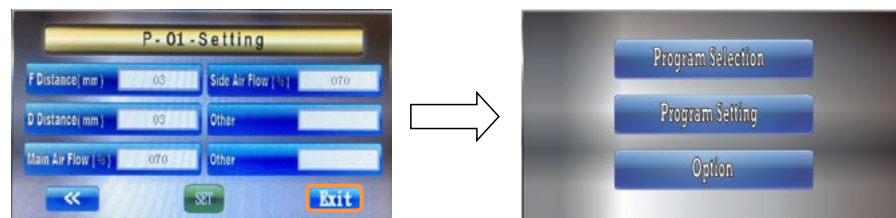

Figure 3.2.13
- On the second Setting menu, there is an **Exit** key. After finishing all the parameter settings, hit this **Exit** key to return back to the Main menu. (Fig. 3.2.13)